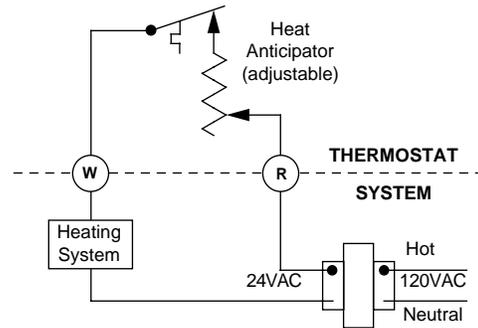

Figure 2. Wiring Diagram
3. Pull wires through the opening in the thermostat base and connect wires beneath the terminal screws. (see Fig. 2 & 3).